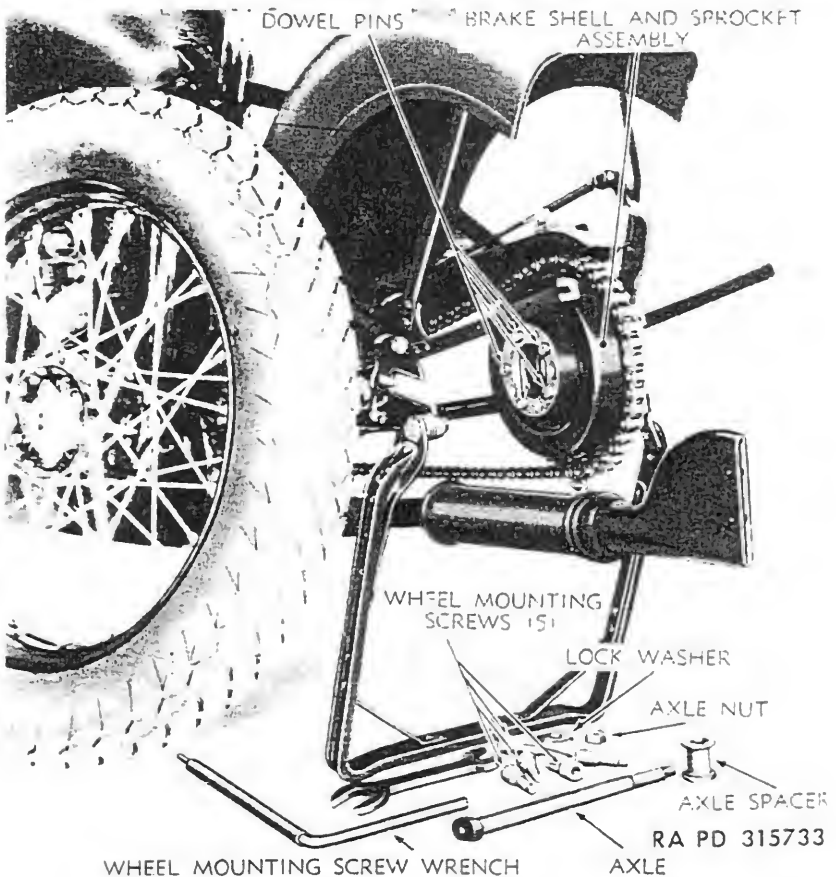

Figure 83—Disassembly for Rear Wheel Removal
127. REAR WHEEL REPLACEMENT (figs. 83 and 84).**a. Remove.**
(6) Pull out axle from left side of vehicle.
(7) Remove spacer from between wheel hub end and left side of frame.
(8) Wheel is now free to come out by pulling and working it away from dowel pins located in brake shell assembly. A wheel being removed for the first time may offer some resistance. It will be observed that chain, sprocket, and brake assembly remain in the vehicle frame.
b. Install (figs. 83 and 84).
(1) Position wheel on brake shell dowel pins. Work hub onto dowels as far as it will go.
(2) Install axle spacer at left end of hub so that axle will pass through it and the hub.
(3) Install axle from left side of vehicle. Pass it through sleeve and hub, with end of axle engaging the frame left axle clip notch.